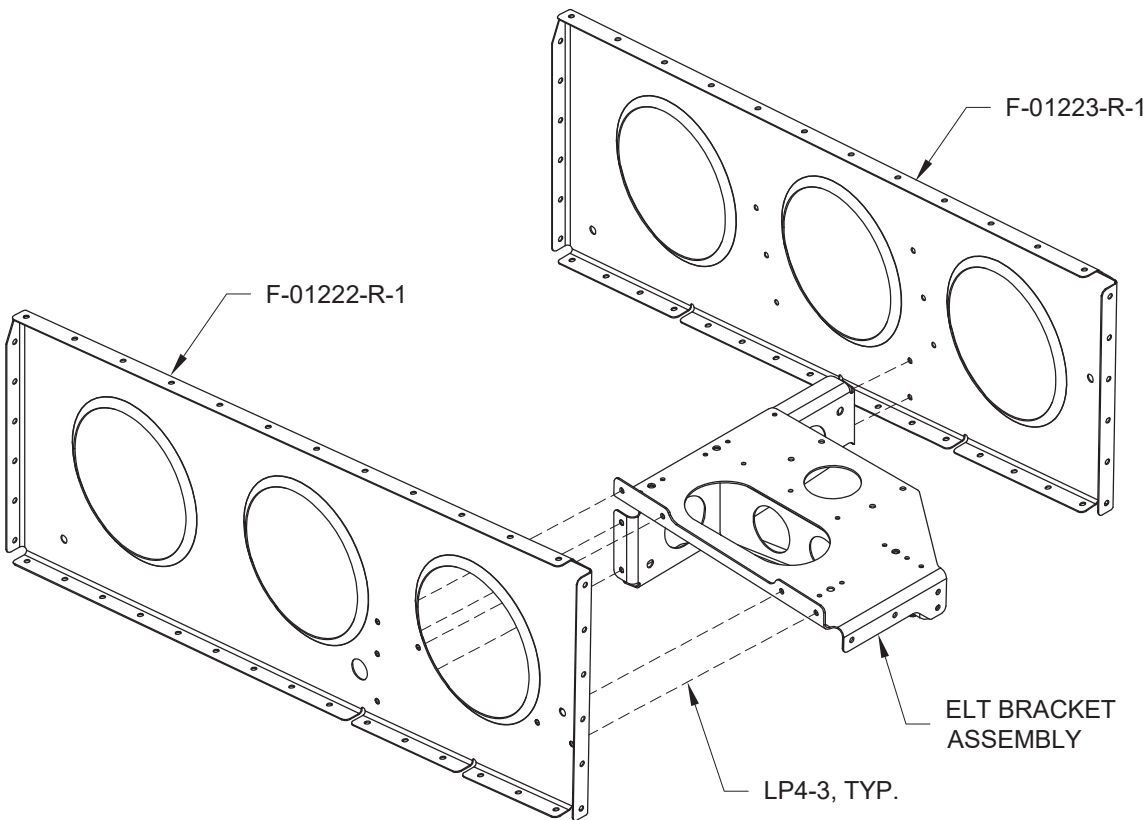

FIGURE 4: RIVETING ELT BRACKET/ BAGGAGE RIBS
Step 9: Cleco together then rivet the ELT Bracket Assembly to F-01223-R-1 and F-01222-R-1 as shown in Figure 4.